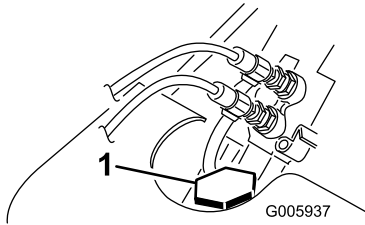

Figure 38
3. Remove the radiator cap and check the coolant level (Figure 38).